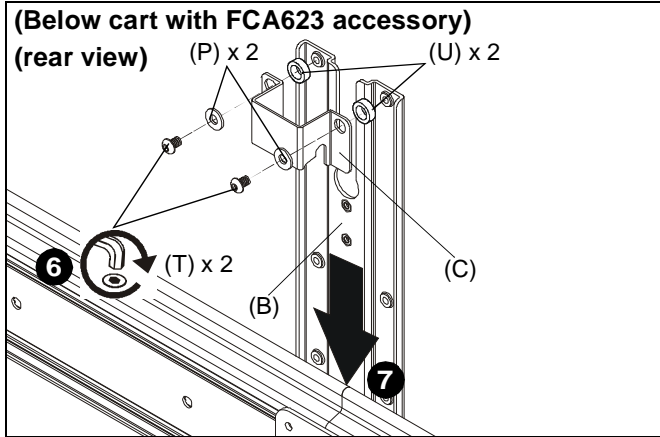

Figure 11
6. Use two 1/4-20 x 7/16" button head cap screws (T), two large washers (P) and two 3/5" spacers (U) to secure support bracket (C) to main bracket (B). (See Figure 11)
7. Slide main bracket (B) onto front of cart/ceiling mount head assembly until support bracket (C) rests on top of cart mount head assembly. (See Figure 11)